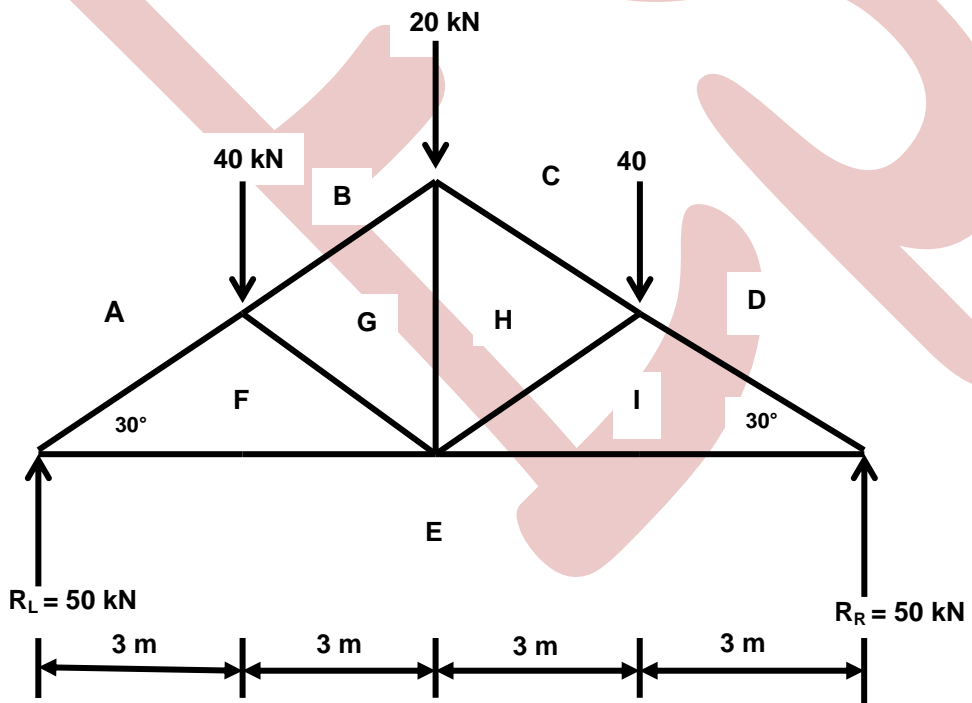

FIGURE 2
- 2.3.3 Test the answers to prove the equilibrium. (2)
- 3.1 Redraw the framework shown in FIGURE 2, DIAGRAM SHEET 1 (attached) to a scale of 1:100 in the ANSWER BOOK. (2)